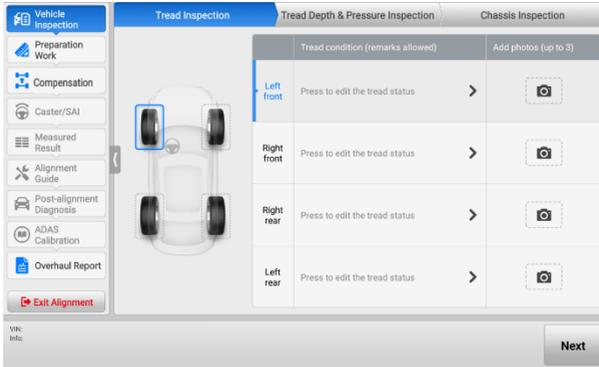
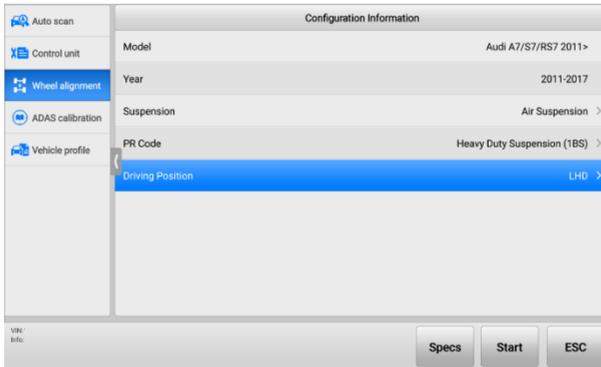

Figure 5-4 Complete Wheel Alignment Procedures Screen
Figure 5-12 Wheel Alignment Screen (Advanced Wheel Alignment)
7. Tap **Start** and follow the on-screen instructions step by step to continue, and finally enter the whole Wheel Alignment Procedures screen. See Figure 5-4 Complete Wheel Alignment Procedures Screen.
3. Select **Wheel Alignment** from the Navigation Bar to continue (see Figure 5-12 Wheel Alignment Screen \(Advanced Wheel Alignment\)). The following steps are the same as described in the Advanced Wheel Alignment. You can follow the on-screen instructions to operate step by step, and finally enter the whole Wheel Alignment Procedures screen (see Figure 5-4 Complete Wheel Alignment Procedures Screen).